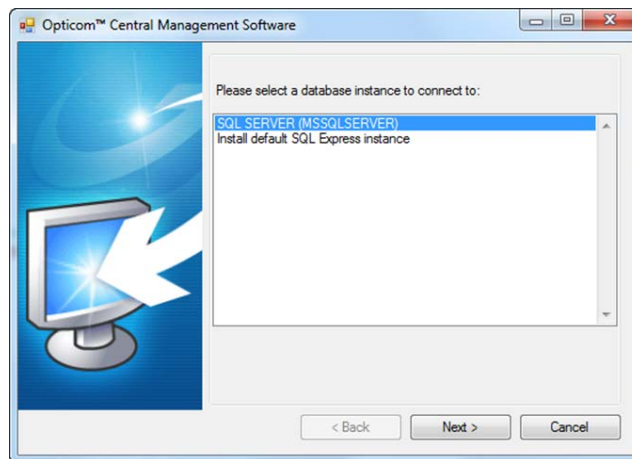

Figure 3-2
- a. Figure 3-2 shows an example of using a user installed full version of SQL.